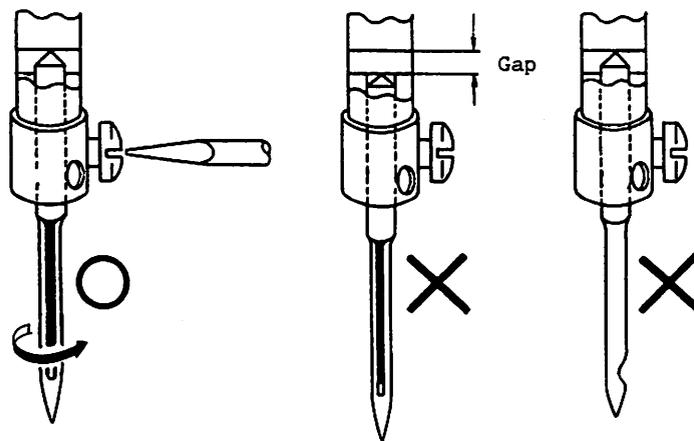

Fig. 9.4
- (1) Before attaching or detaching the needle, be sure to turn off the power for safety.
- (2) Insert the needle into the needle socket until it is stopped at the bottom of needle socket.
- (3) Secure the needle screw with the prime groove of needle facing front.
- (4) For better stitching, it is usually recommended to set the needle turned about 10° in the direction of arrow shown in Fig. 9.4.